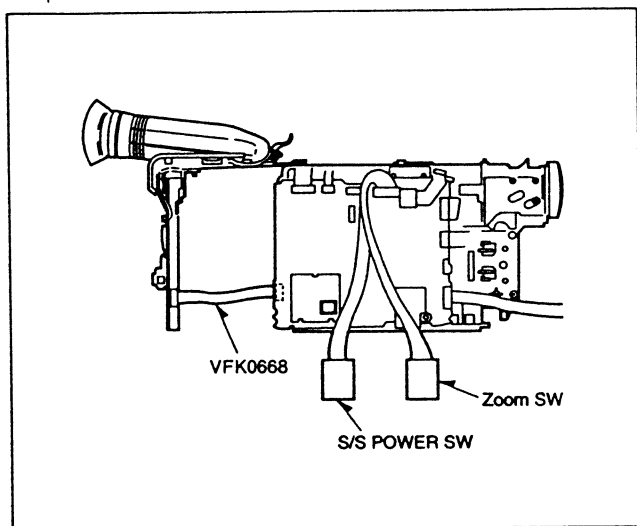

Fig.E1
- Connect the Viewfinder to unit with Extension Cable VFK0668 (24pin). ⇨ Please refer to Fig.E1.